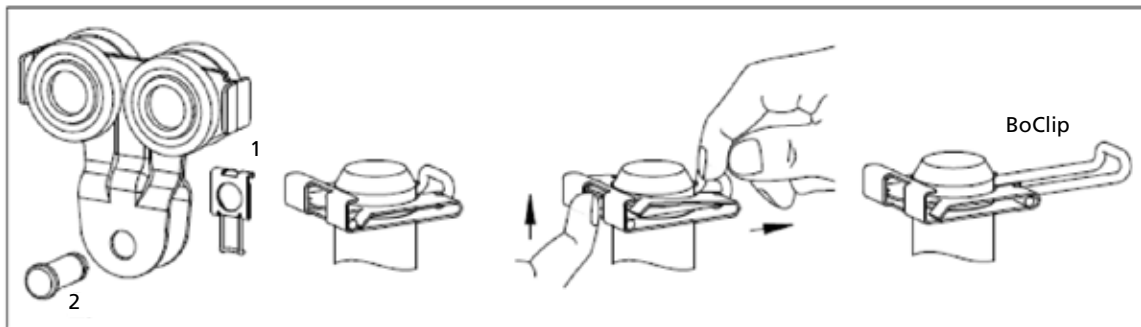

fig.60
2. Remove the block clips 1 (instructions in fig. 60) and remove the suspension pins 2
6. Remove the block clips 1 (Instructions in fig. 60) and remove the suspension pins 2